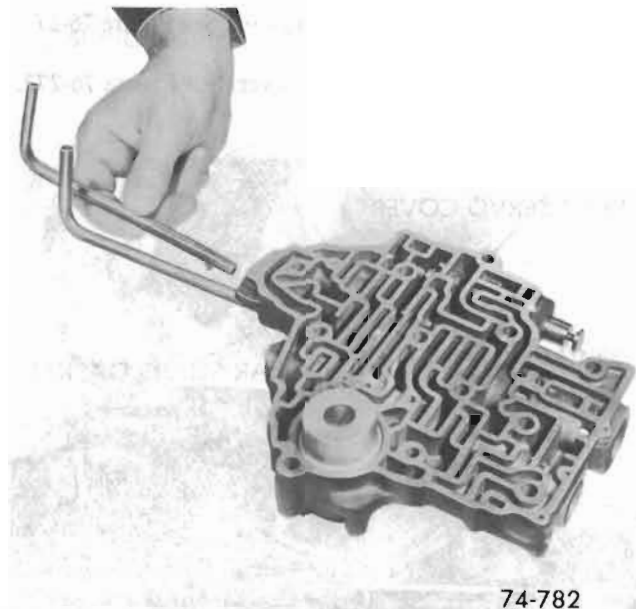

Figure 76-274
1. Install governor pipes on control valve assembly. Governor pipes are interchangeable. See Figure 76-274.